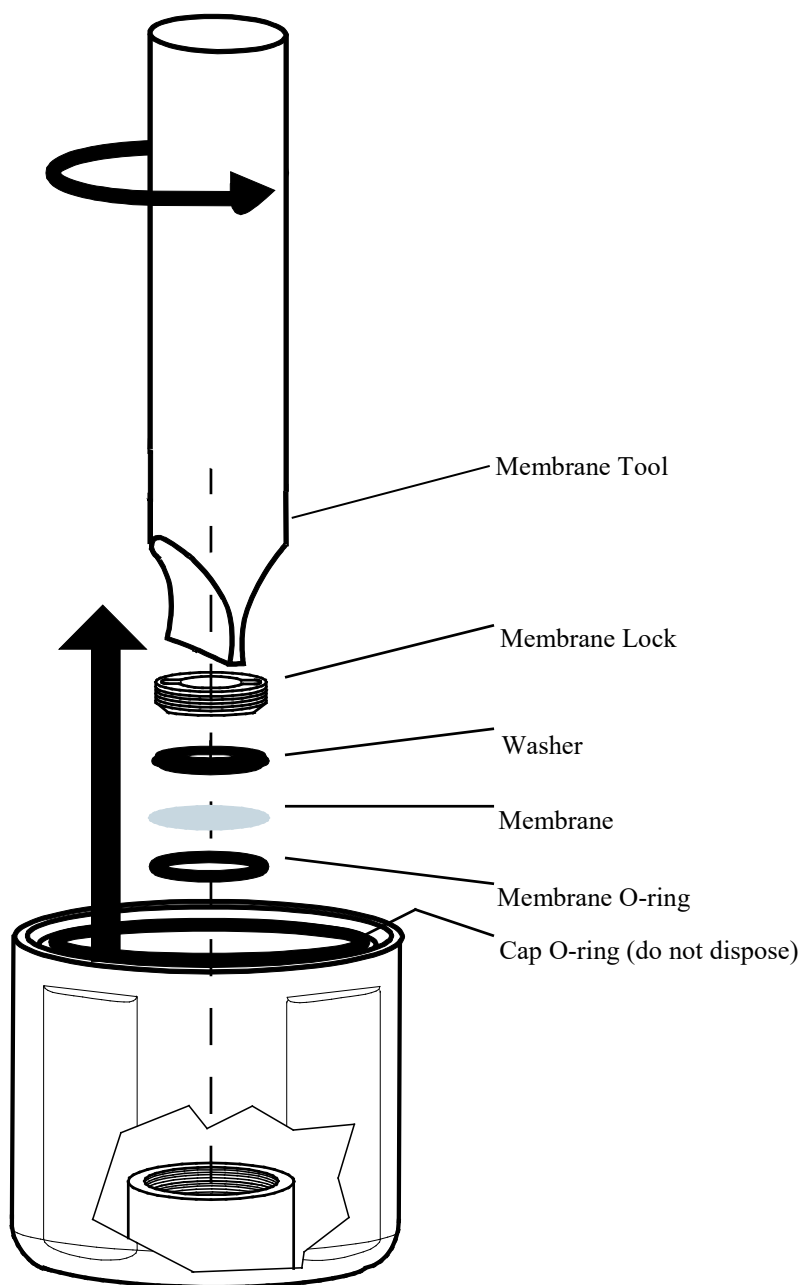

FIGURE 8-2. Remove membrane and membrane O-ring
3. Using the membrane tool, unscrew the membrane lock that is in the lower body (see FIGURE 8-2).
4. Remove and dispose of the membrane and its O-ring as show in FIGURE 8-2.